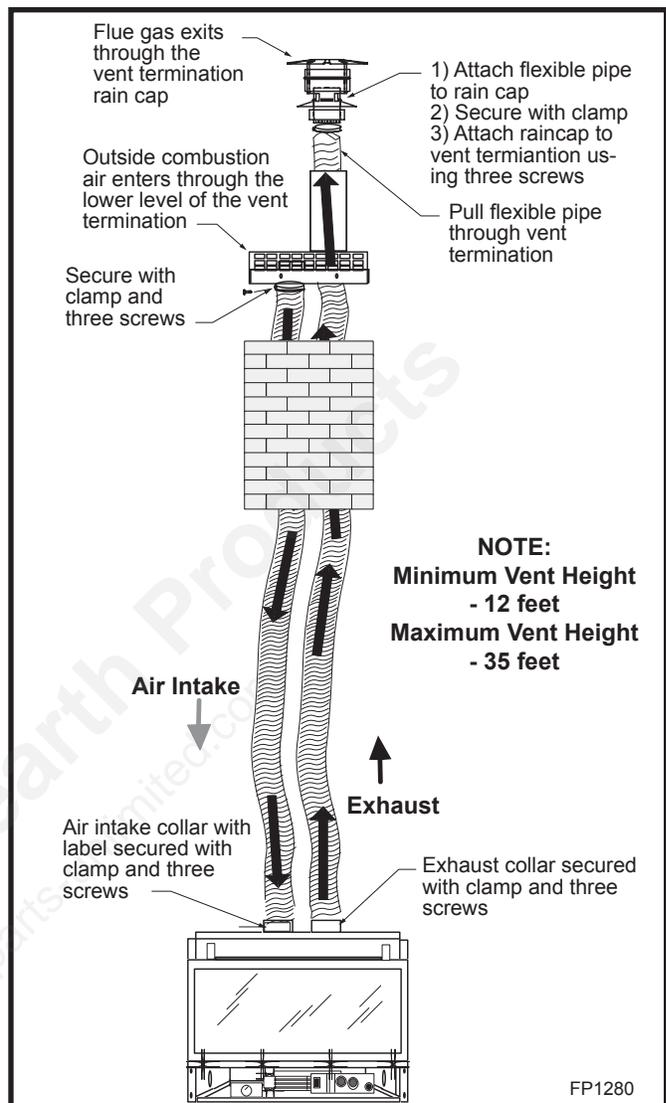
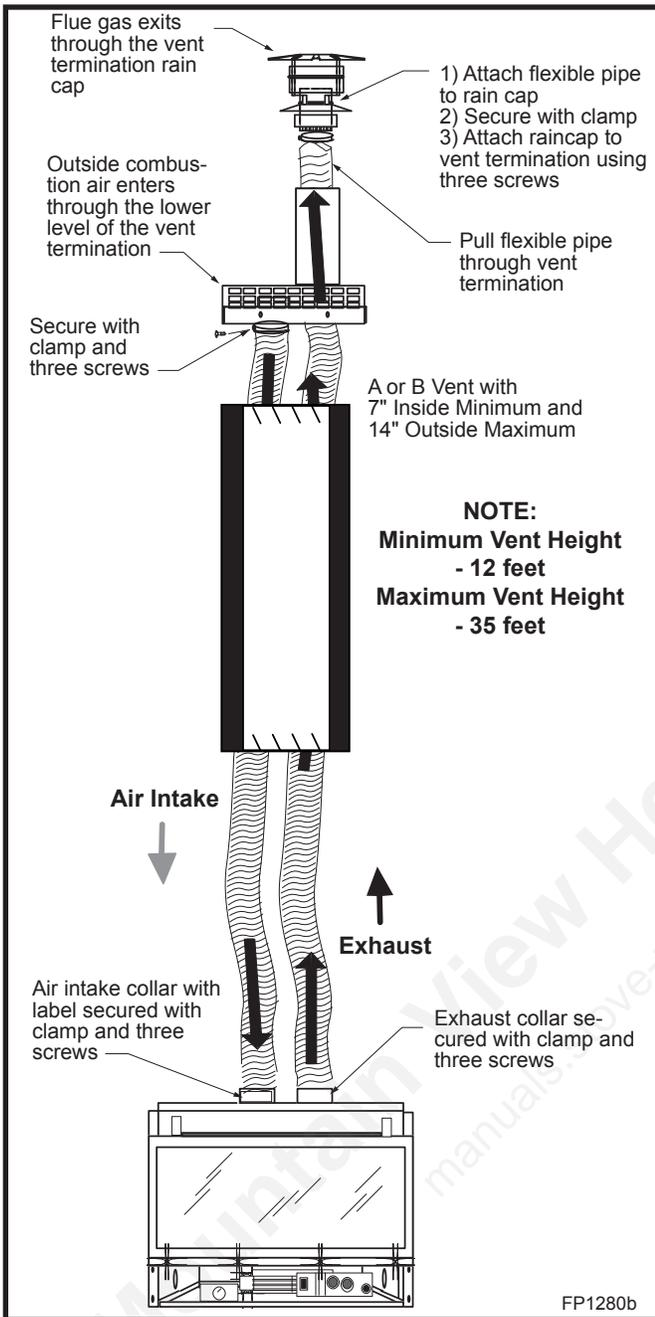

Fig. 10 Liner installation.
Fig. 12 Liner installatin with A or B vent.
Slide the insulation provided in the termination kit over the two (2) 3" flex liners, (to be attached to the 3" flue collar and cap of the termination). Feed one 3" flex vent from the bottom of the termination up through the 4" sleeve. Apply hi-temp sealant on the rain cap collar and slide the flex vent over the end of the rain cap collar fastening with the clamp provided. Slide the flex liner back down the 4" sleeve until 4" cap slides over the sleeve. Attach cap to the sleeve with four (4) screws supplied. Apply hi-temp sealant over the air intake collar and attach intake flex vent in the same method. Feed the two flex liners down the chimney through the damper opening. Tighten termination to the chimney using the screws provided. (Fig. 10) **NOTE: For Round Vent Terminations** - tighten termination to the chimney by pushing the four (4) straps of the vent termination against the chimney and secure with four (4) screws provided. (Fig. 12)